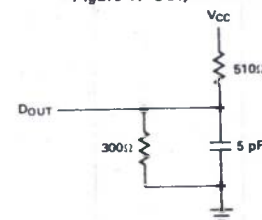

Figure 2. Output Load for t_{HZ}, t_{LZ}, t_{WZ}, t_{OW}
3. Transition is measured ±500 mV from steady state voltage with specified loading in Figure 2.
3. Transition is measured ± 500 mV from steady state voltage with specified loading in Figure 2.